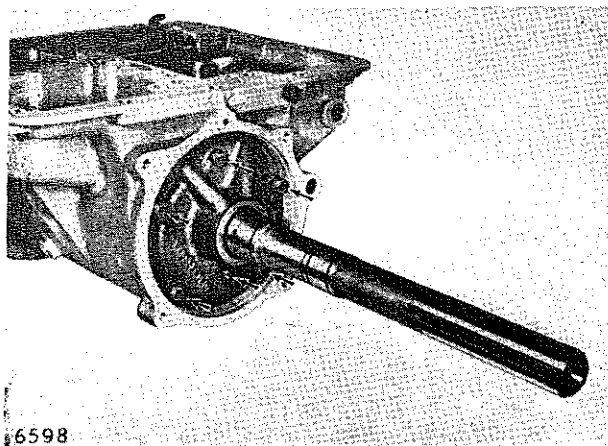

Fig. 24—Output shaft support
- (1) Remove the 6 screws and lock washers retaining the output shaft support to the transmission case. (Refer Fig. 24).
- (2) Carefully withdraw the output shaft support from shaft.
- (3) Carefully remove the 3 oil seal rings from the output shaft where necessary.